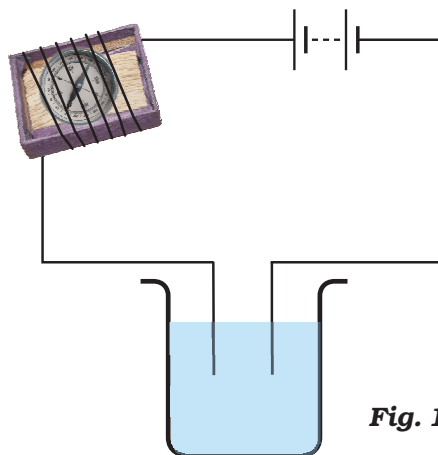

Fig. 11.9
- Name three liquids, which when tested in the manner shown in Fig.11.9, may cause the magnetic needle to deflect.